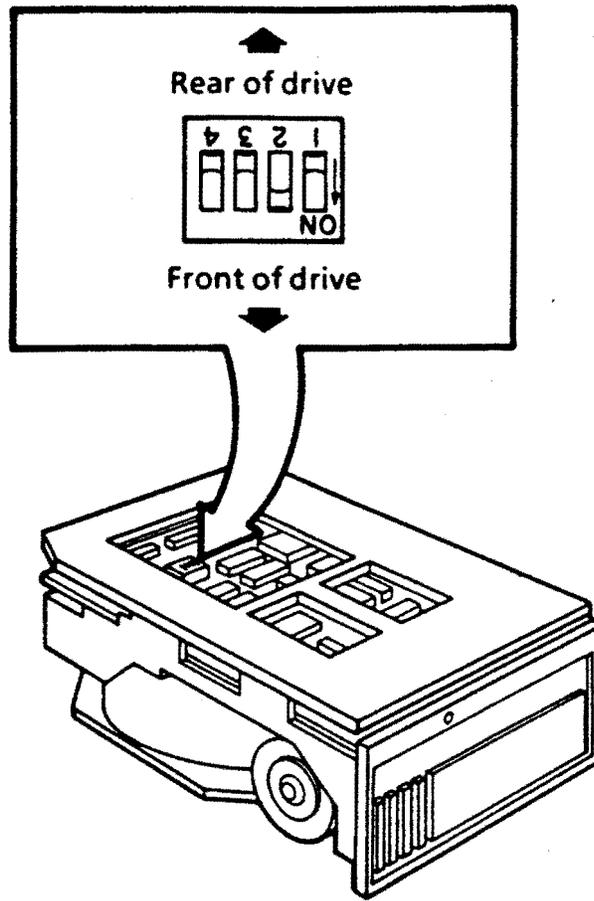

Figure 4-15: RD52 DIP Switches
2. Set the DIP switches as shown in Figure 4-15.